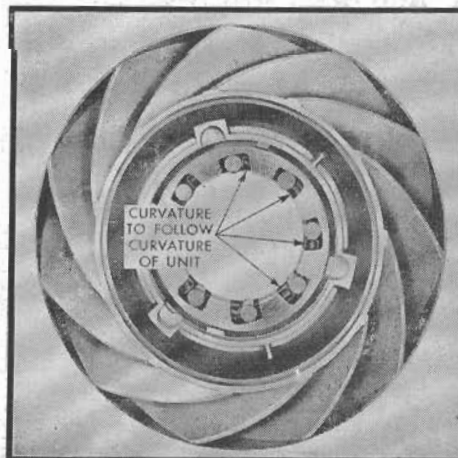

Fig. 21 Curvature of spring retainers. 1953-59
- Assemble cam rollers, springs and guides in cam pockets. Spring guides are curved and this curvature should fit curvature of unit, Fig. 21.